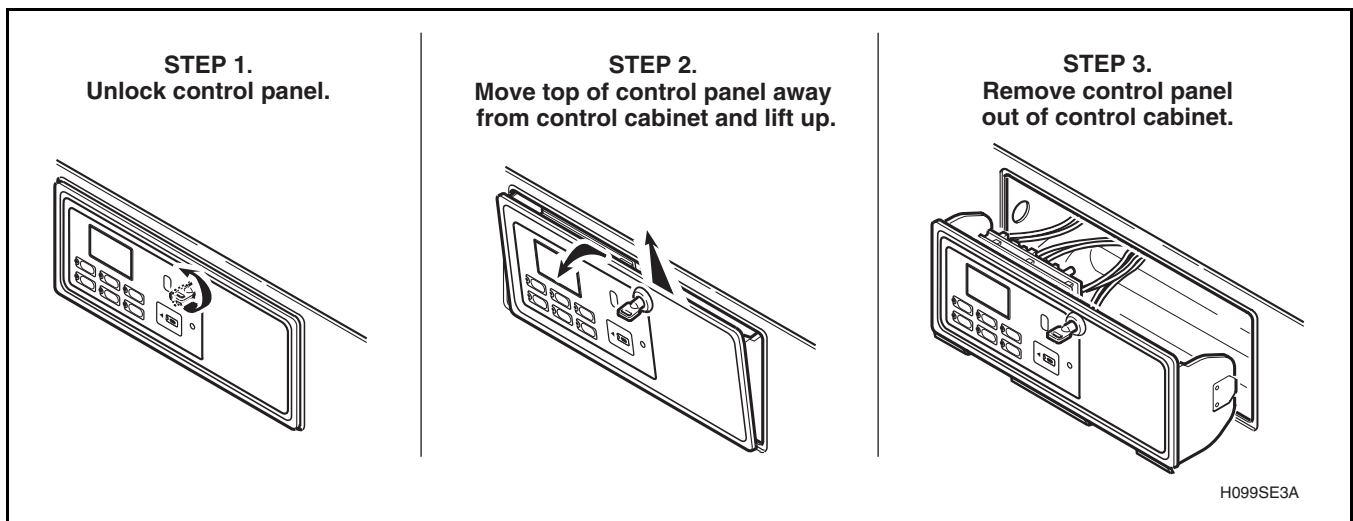

Figure 14
- a. Unlock control panel. Refer to *Figure 14, Step 1*.
- b. Pull top of control panel away from control cabinet far enough to allow lifting control panel up and off the rail support of the control cabinet. Refer to *Figure 14, Step 2*.
- c. Remove control panel away from control cabinet as far as wires permit. Refer to *Figure 14, Step 3*.
- Unlock control panel. Refer to *Figure 14, Step 1*.
- Pull top of control panel away from control cabinet far enough to allow lifting control panel up and off the rail support of the control cabinet. Refer to *Figure 14, Step 2*.
- Remove control panel away from control cabinet as far as wires permit. Refer to *Figure 14, Step 3*.